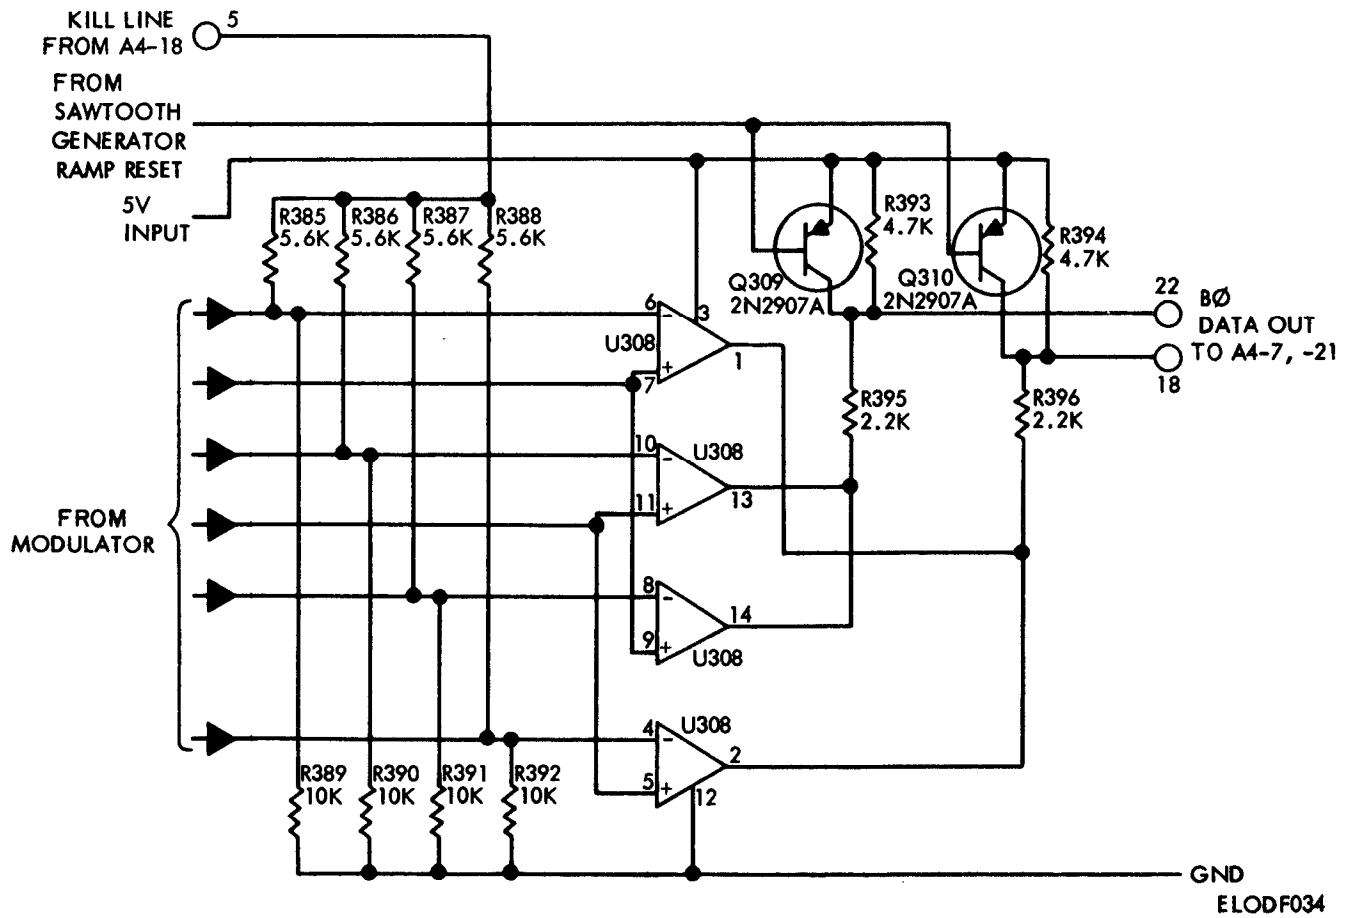

Figure 3-19. Data generator—B phase and C phase.
e. The data generator (fig. 3-19) correlates the information for transmittal to the output drive board. Transistors Q309, Q310 disable output data during reset of ramp generator. Figure 3-19 shows